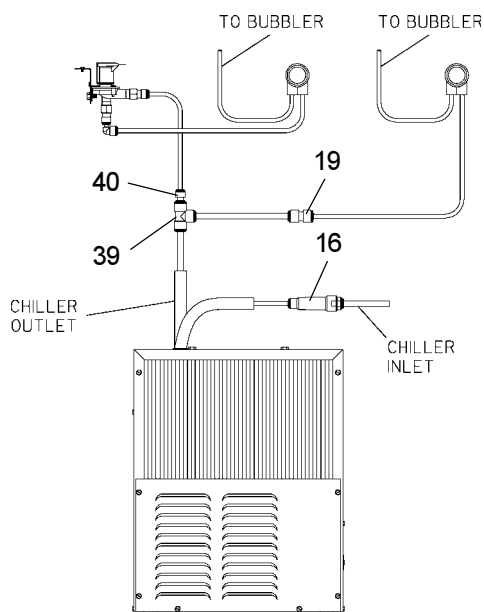
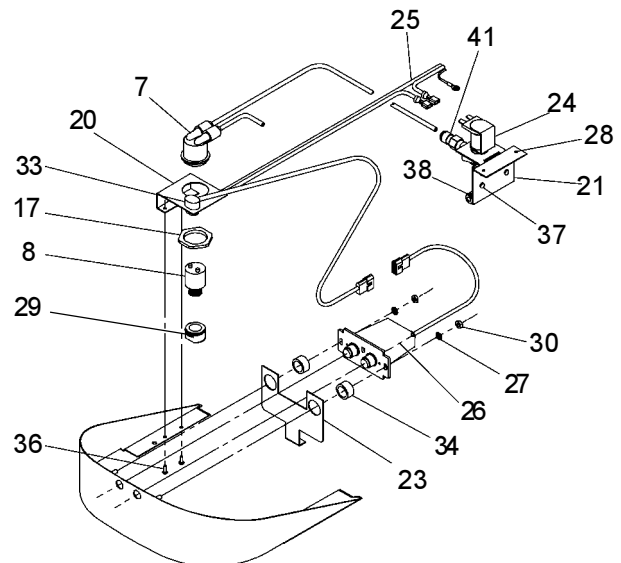

FIG. 4
FIG. 5
6. Make connection between remote chiller and solenoid valve assy. Install the 3/8" tee (provided) on the chiller outlet tube. Install the 3/8" stem x 1/4" O.D. tube union (provided) into 3/8" tee (See Fig. 4). Install 1/4" O.D. formed tube (provided) between 3/8" stem x 1/4" O.D. tube union and the straight fitting on solenoid valve assy.
8. Install fountains. Remove bottom cover plates on underside of fountains and save the screws. Mount the fountains to the upper panel and the wall frame with (4) 5/16" x 3/4" (19mm) long bolts and nuts (provided). Tighten securely.
11. Connect power cord of sensor to solenoid valve by running it through the back panel and connecting it as shown in Fig. 5. Connectors may be connected to either terminal on solenoid valve. Attach ground wire to solenoid valve bracket with green ground screw.
15. Check stream height from bubbler. Stream height is factory set at 35 PSI . If supply pressure varies greatly from this, remove items 29 and 37 and adjust the screw on the regulator (item 8). Clockwise adjustment will raise stream height and counter-clockwise will lower stream height. For best adjustment stream height should hit basin approximately 6-1/2" (165mm) from the bubbler.
16. Mount lower panel. Loosen the (2) #10-24 x 5/8" (16mm) screws at frame bottom lip. Slide upper tongue of lower panel under lower edge of already installed upper panel. Tighten previously loosened screws securely.